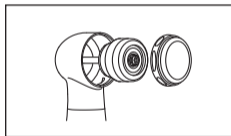

Fig. 37
- 4 Use the bur to gently lever the entire cartridge out from the head (Fig. 37).